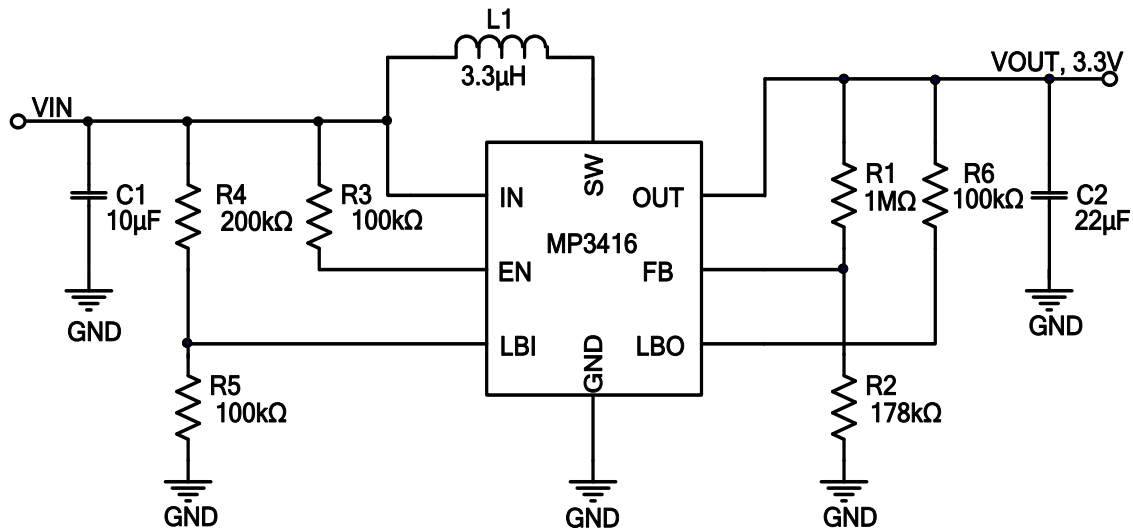

Figure 5: Typical Schematic for 3.3V Output
- 6) Tested under a 0.79A switching current limit. The test schematic is the same as Figure 5 when V_{OUT} is 3.3V and the same as Figure 6 when V_{OUT} is 5V.
The typical application circuit for $V_{OUT} = 3.3V$ in Figure 5 shows the detailed application schematic and is the basis for the typical performance waveforms. For more detailed device applications, please refer to the related evaluation board datasheets.